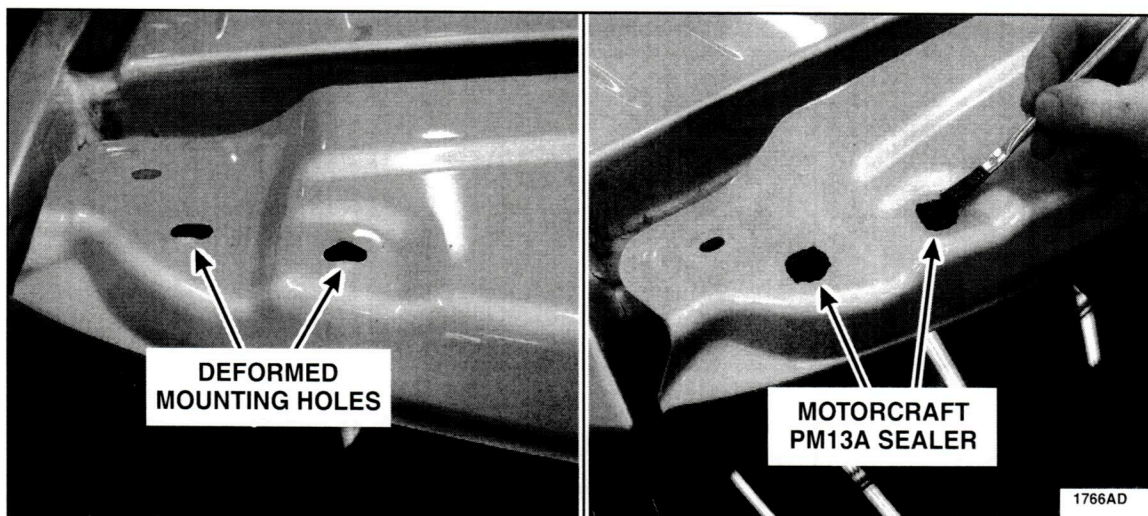

FIGURE 14
8. Using a flat faced hammer, carefully straighten any deformed spoiler retaining clip mounting holes and apply Motorcraft® PM13A sealer. See Figure 14.